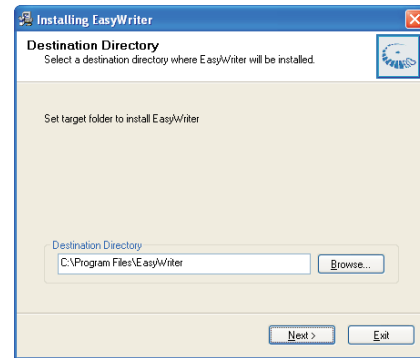

Fig. 4
Step 4 : Double click the EasywriterV2.06a_user.exe icon to install the Application as Fig. 4.